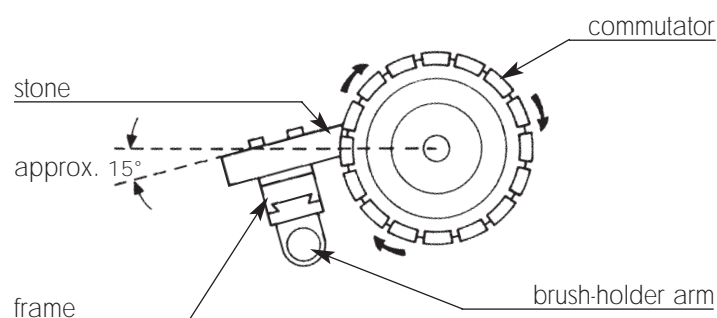

Fig. 1
- Rotate the commutator in order to have the stone in trailing position (see Fig. 1),